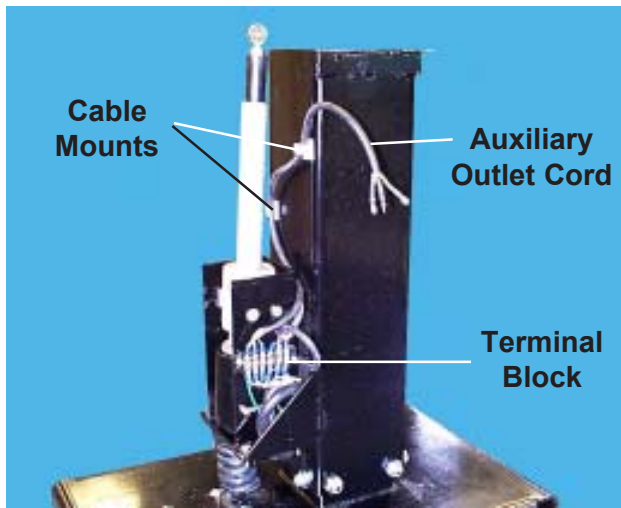

Figure 48. Main Column with Covers Removed
2. With a small flat-blade screwdriver, disconnect the three auxiliary power cord wires (black, white, green) from the terminal block (Figures 48 and 49).
3. Remove the auxiliary power cord from the two cable mounts (Figure 48).
1. Connect the three auxiliary cord wires to the terminal block (Figures 48 and 49).
2. Place the auxiliary cord into the two cable mounts (Figure 48).
2. With a small flat-blade screwdriver, remove the six retractile cord wires (black, white, green, red, blue and yellow) from the terminal block on the main column (Figures 48 and 50).
8. With a small flat-blade screwdriver, remove the six retractile cord wires from the terminal block and the lower capacitor in the bottom of the base (Figures 48 and 52).
9. Connect the six wires from this end of the cable to the terminal block on the main column (Figures 48 and 50).